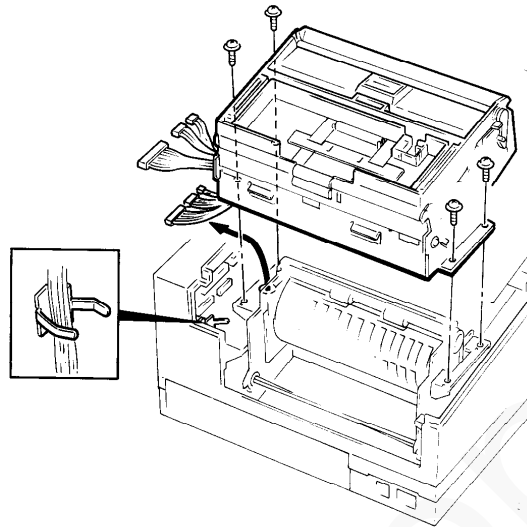

Figure 1. Scanner module
5. Remove the four screws retaining the scanner module to the chassis (figure 1).
6. Remove the scanner module (figure 1).